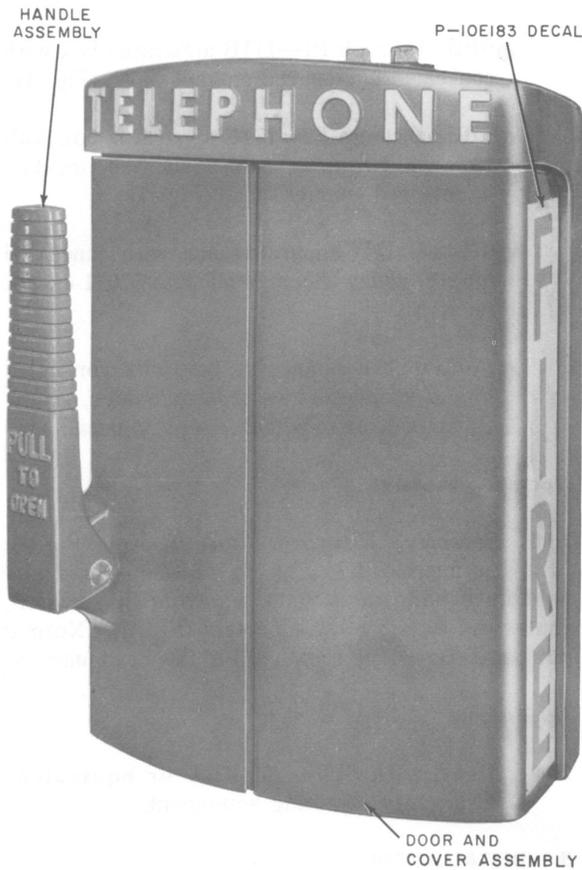

Fig. 1—570-Type Telephone Set, Current Style
- 570J1 through P1—111B apparatus box with concealed hinges, red enamel finish (Fig. 1).
- 570J2 through P2—111C apparatus box with concealed hinges, cam-assist ice breaker handle, red enamel finish (Fig. 1).